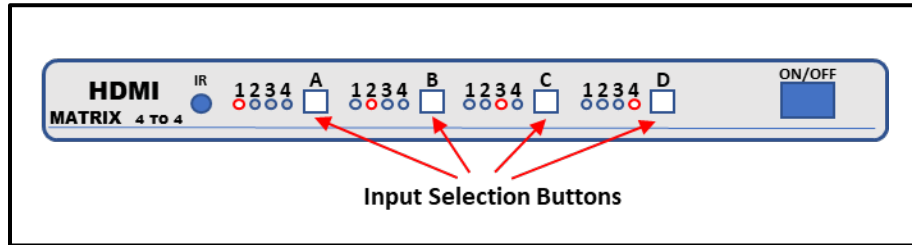

Figure 2. HDMI Switch Controls and Indicators
- d. Use the four white input selection buttons on the front of the HDMI Matrix to configure the matrix in accordance with the settings shown in Figure 2 below.